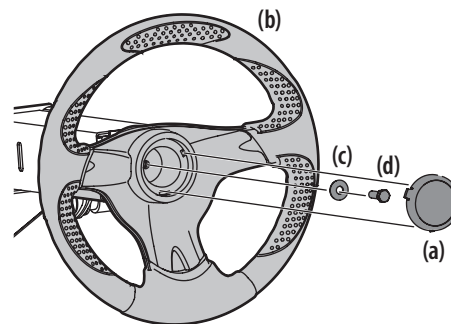

Figure 3
1. Remove the hardware for attaching the steering wheel (b) from beneath the steering wheel cap (a). Carefully remove the cover (a) by inserting a small flat screwdriver into one of the three snap locations, while slowly prying up on the steering wheel cap to remove the hardware.. See Figure 3.
2. With the wheels of the machine pointing straight forward, place the steering wheel (b) over the steering shaft. See Figure 3.
3. Place the Belleville washer (c) with the cupped side facing inward over the steering wheel (b) and secure with the hex lock screw (d). See Figure 3.
4. Place the steering wheel cover (a) over the center of the steering wheel (b) and push downward until it "clicks" into place. See Figure 3.